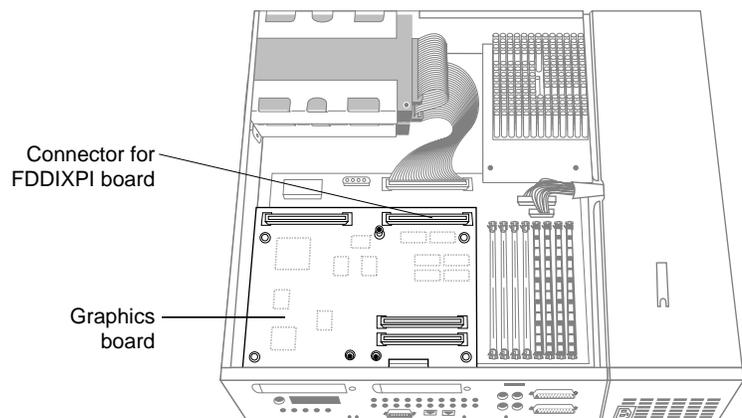

Figure 1-4 Locating the graphics board
- Figure 1-4** Locating the graphics board 7
- Move the system or position yourself so that you are facing the rear of the system as shown in Figure 1-4.